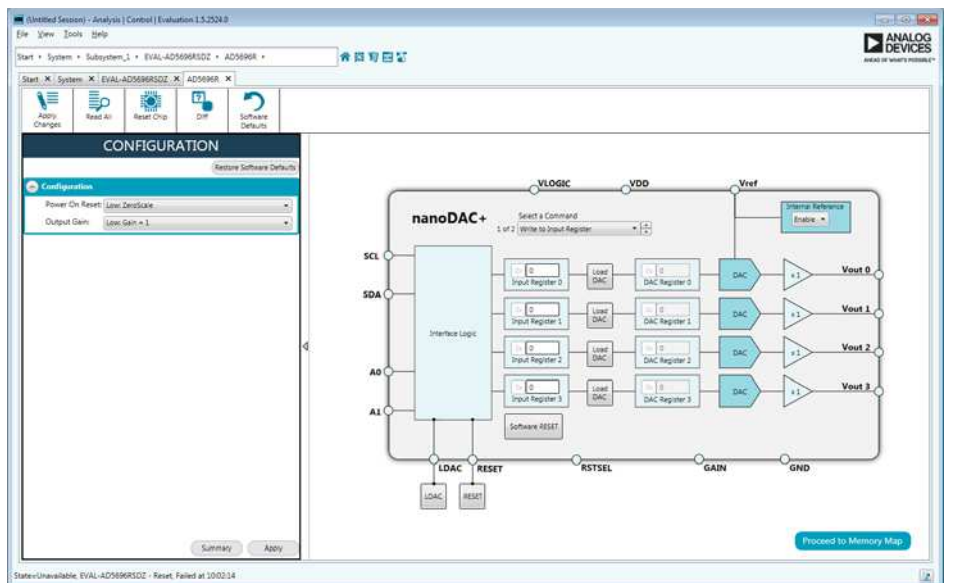

Figure 3. Chip Block Diagram of the AD5696R
4. Double click the AD5696R chip to access the chip block diagram. This view provides a basic representation of functionality of the board. The main function blocks of the board are labeled in Figure 3.